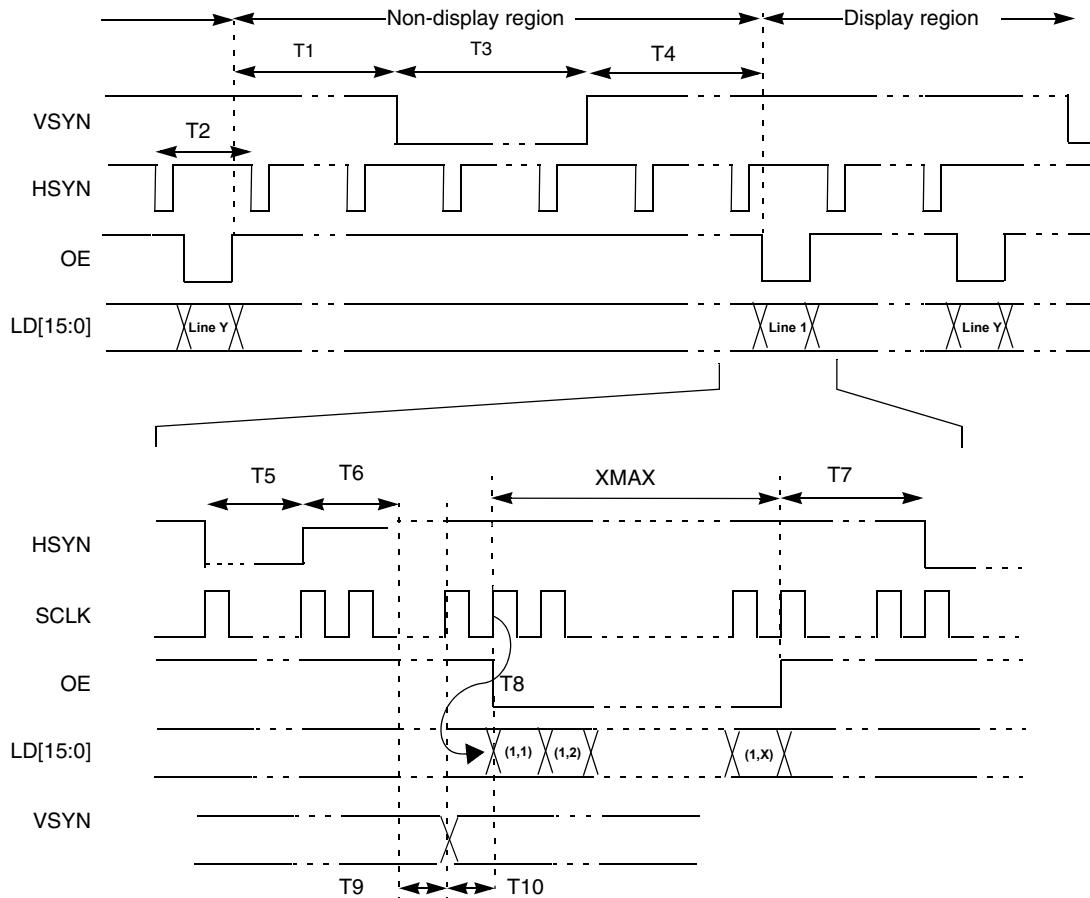

Figure 5. TFT Panel Timing Waveform for Display Region
- VSYN, HSYN and OE can be programmed as active high or active low. In Figure 5, all 3 signals are active low.
- SCLK can be programmed to be deactivated during the VSYN pulse or the OE deasserted period. In Figure 5, SCLK is always active.